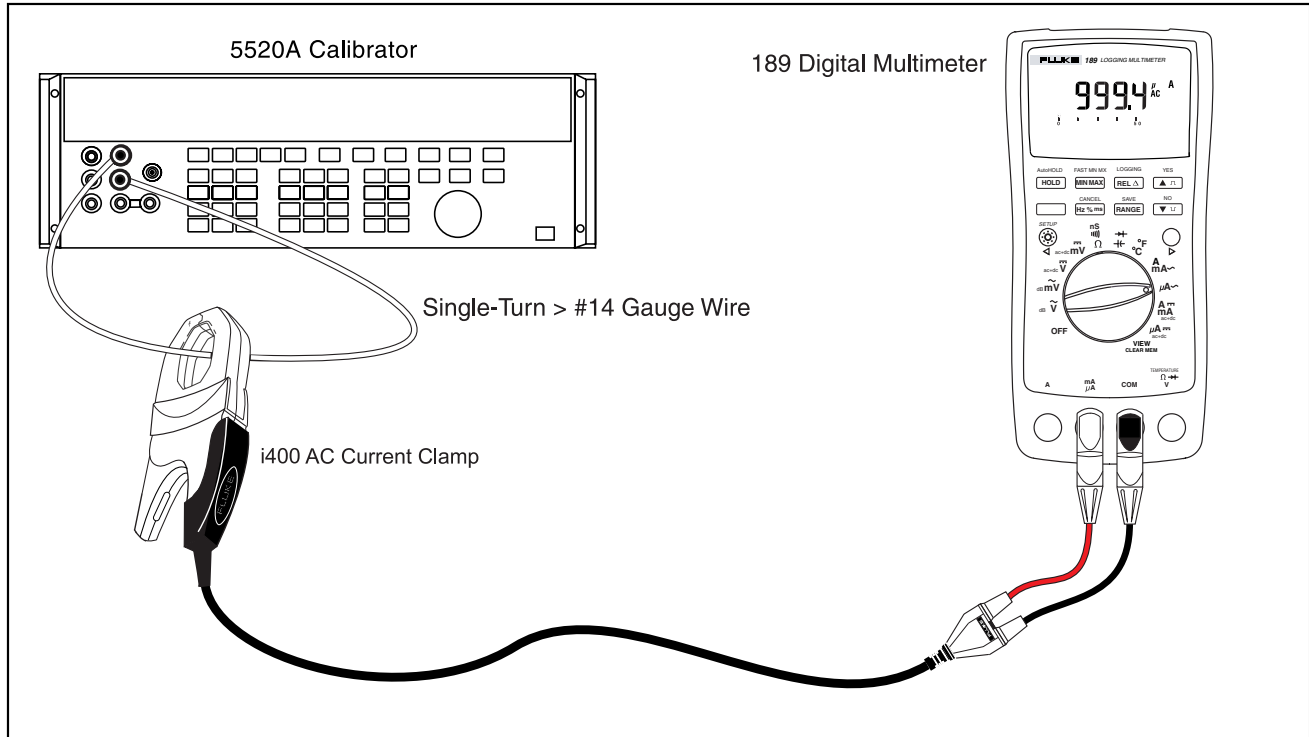

Figure 2. Connections for Current-Accuracy Test (Step 1)
1. Connect the equipment as shown in Figure 2.